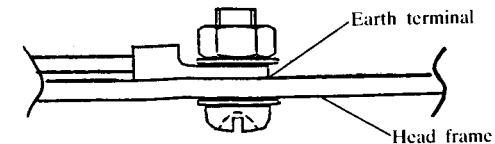

Fig. 70-1
- (1) Remove the earth terminal which is on the bottom of the Head frame by removing the screw and washer. (See Fig. 70-1)